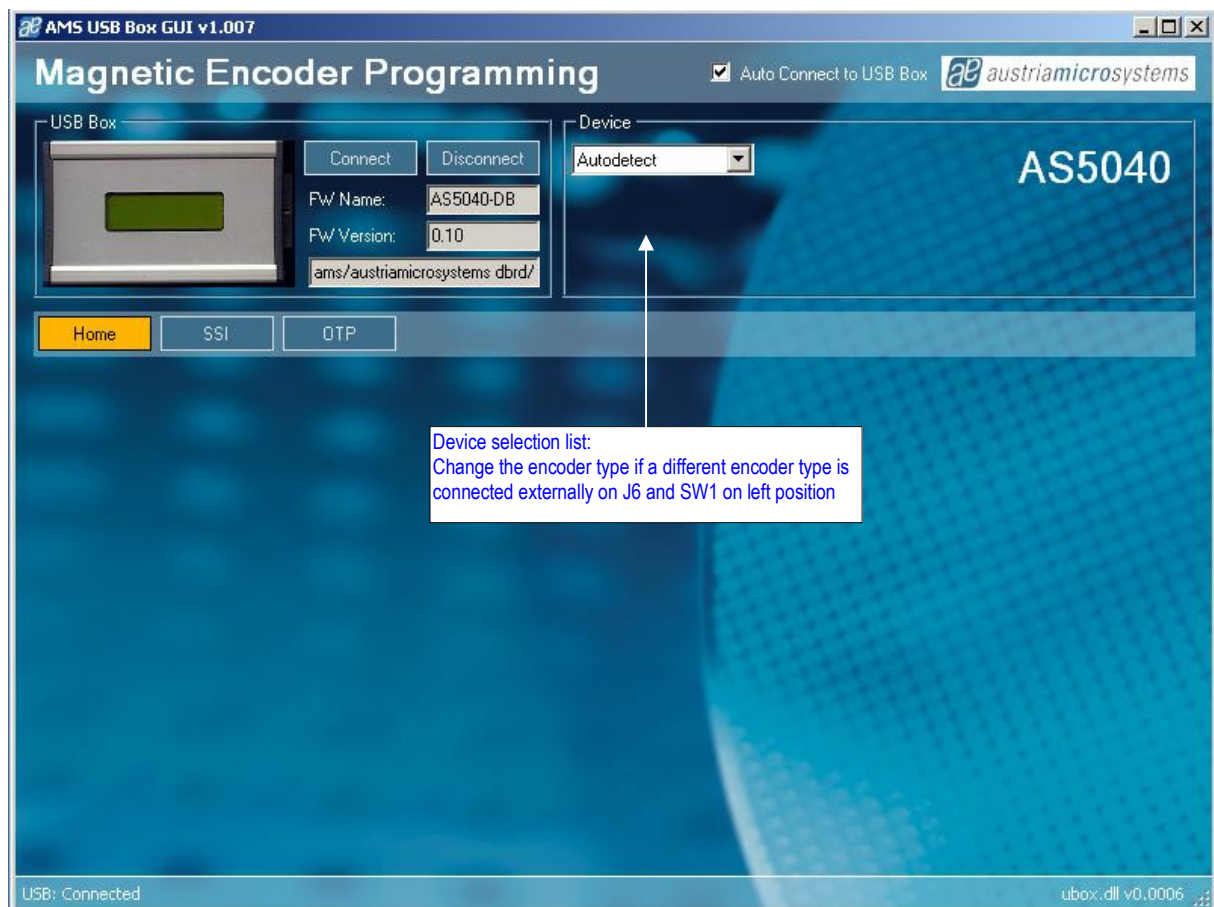

Figure 4: AS5000 GUI detected the AS5040 Demoboard
- If the GUI is used for operation, additional devices AS5043, AS5143, AS5045 and AS5145 can be connected to J6 and evaluated. In that case, the correct encoder must be selected instead of “Autoselect” in the Device list of the PC software, see chapter **Error! Reference source not found.** figure 4.
Figure 4 shows the main window of the GUI. On the top left corner, board information's as firmware (FW) version and demoboard name declaration can be found.